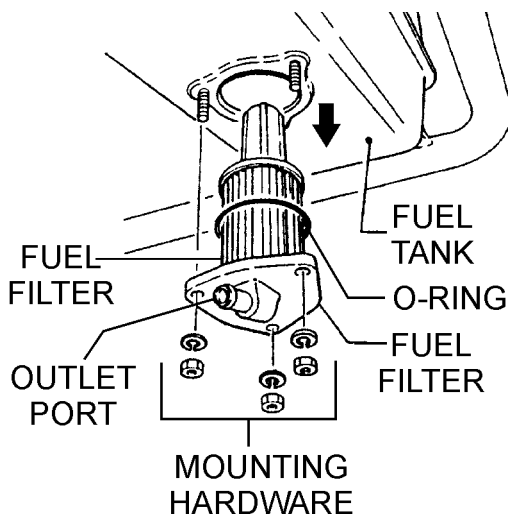

Figure 11. Removing Fuel Filter
2. Remove fuel filter mounting hardware (Figure 11) from the fuel tank.
3. Next, remove fuel filter from fuel tank (Figure 11).